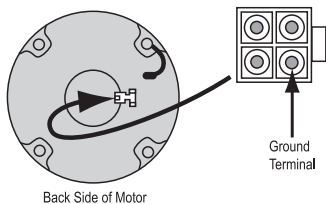

Figure 15
- 5 Inspect connector on back side of motor for bent, damaged, or recessed terminals [Figure 15].
6. Check phase to phase resistance between each of the three phase terminals in the motor connector. **Do not check the ground terminal during this test** [Figure 15].